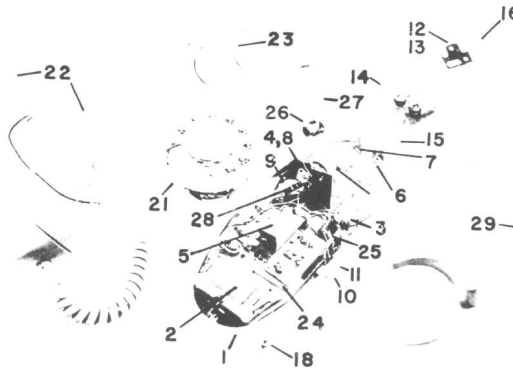

FIGURE 1: COMPONENT PARTS - EXPLODED VIEW
2.01 The exploded view of Figure 1 shows all the component parts and sub-assemblies of the 700 basic instrument.
- 3.01 a. Loosen the lockwasher screws (18 of Figure 1) and remove the housing (29 of Figure 1).
- b. Loosen the clamping screws, lift out the dial (21), if fitted, and disconnect the leads.
- c. Disconnect the leads and remove the handset and cord assembly (22).
- d. Disconnect the leads and remove the desk stand cord (23).
- e. Remove the lamp (27) and socket assembly (26).
- f. Remove spring (25) and cradle switch bracket assembly (24).